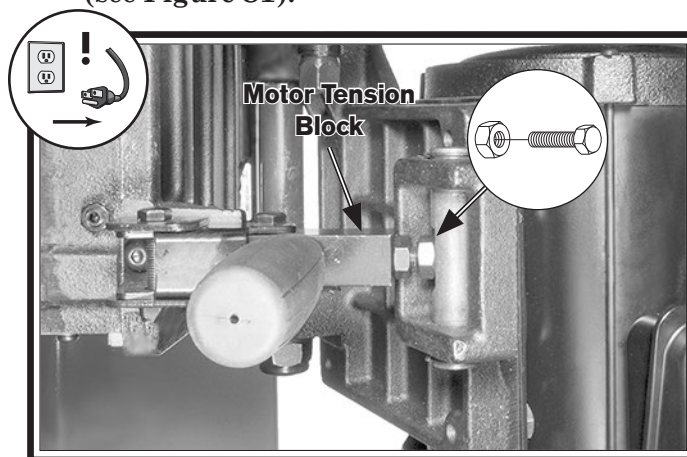

Figure 81. Location of belt tension adjustment hardware.
6. Loosen hex nut on motor tension block and adjust hex bolt until there is $\frac{1}{4}$ " belt deflection, then tighten hex nut to secure (see Figure 81).